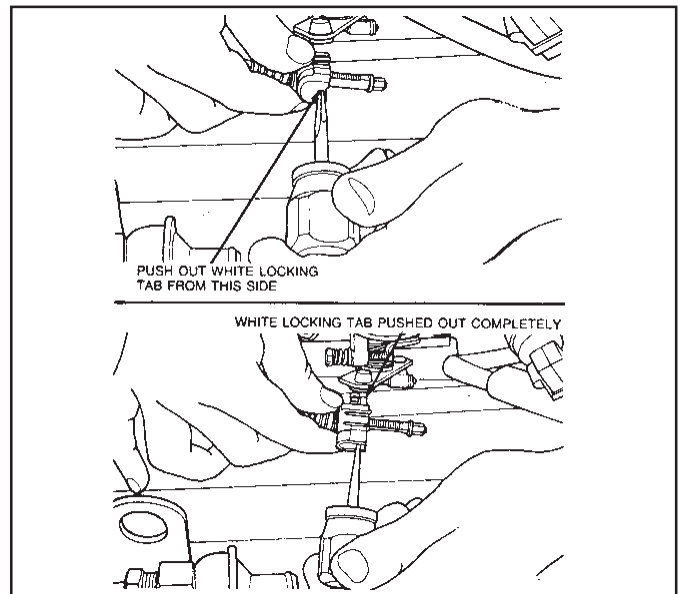

Figure 21
- 6.4 Check to ensure plastic block with pin and tab slides freely on notched rod. If it does not slide freely, the white tab may not be pushed out far enough. **(See Figs. 21 & 22.)**